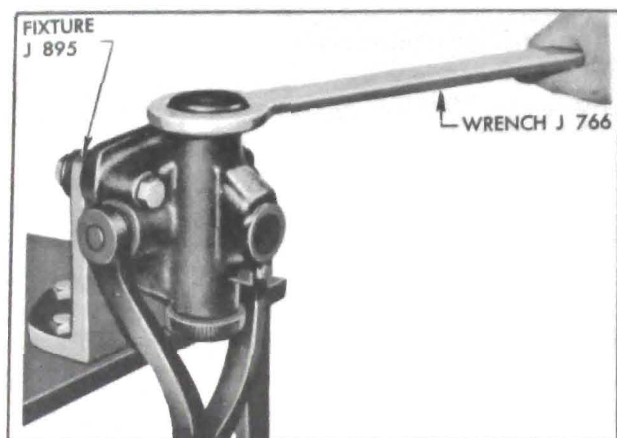

Figure 6-26—Removing Front Shock Absorber End Cap
2. Remove end cap, using End Cap Wrench J 766. See figure 6-26. *Do not use a pipe wrench as this will ruin the cap.*